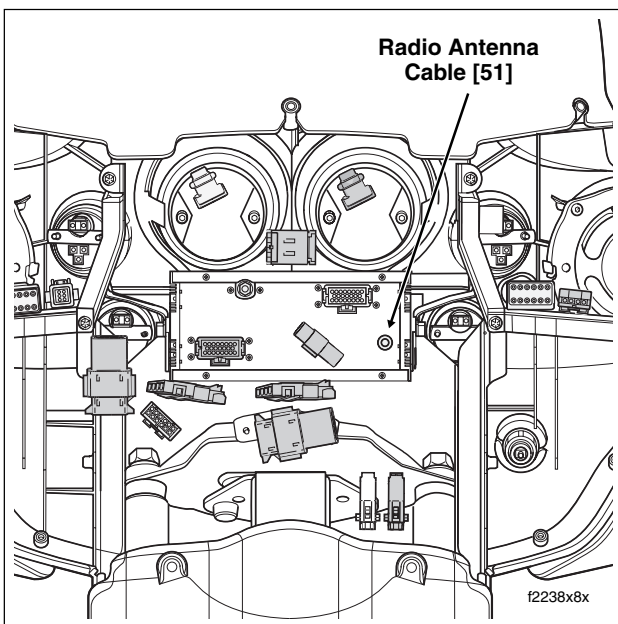

Figure 8-166. Remove Outer Fairing (FLHTC/U)
5. Remove radio antenna cable connector [51] at back of radio (left side). See Figure 8-166. Carefully cut cable where it exits branch of main harness conduit.
7. At front of inner fairing, connect radio antenna cable connector [51] to back of radio. See Figure 8-166.